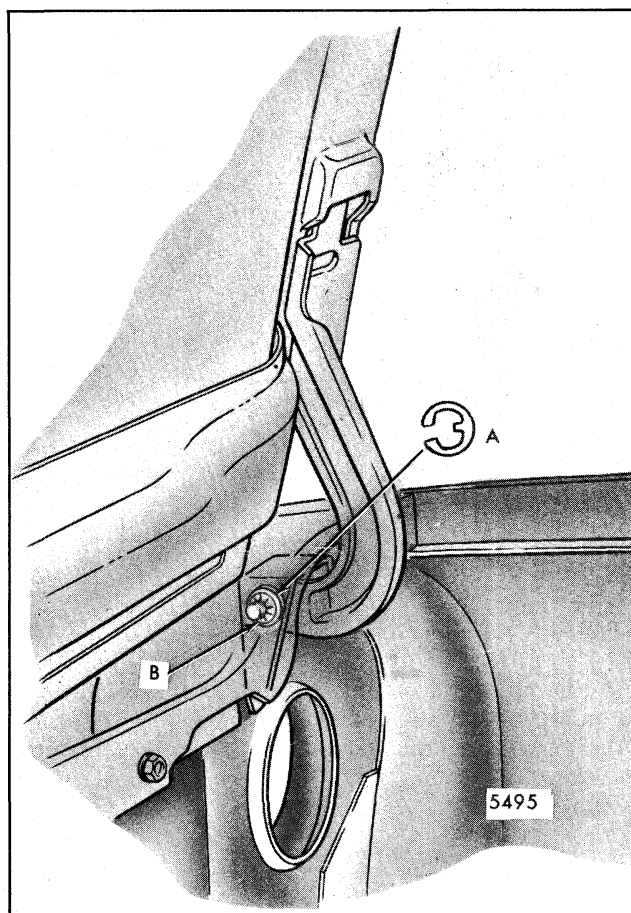

Fig. 4-17-Hood Hinge - "H-11, 15 and 77"
The "H" (less "07,27") style hood assembly is hinged at the front edge. The hood hinge halves are welded to the body and the hood. The pivot pin is part of the hood side hinge half (Fig. 4-17). An E-ring and retaining clip are used to attach the hood to the body.
2. Carefully remove retaining clip Item "B", and E-ring Item "A" as shown in Fig. 4-17.